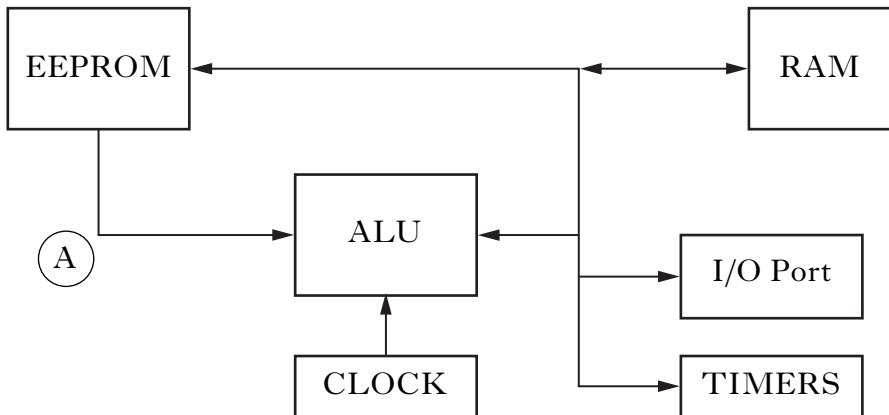

Figure Q1
1. A simplified block diagram for a microcontroller is shown in Figure Q1.